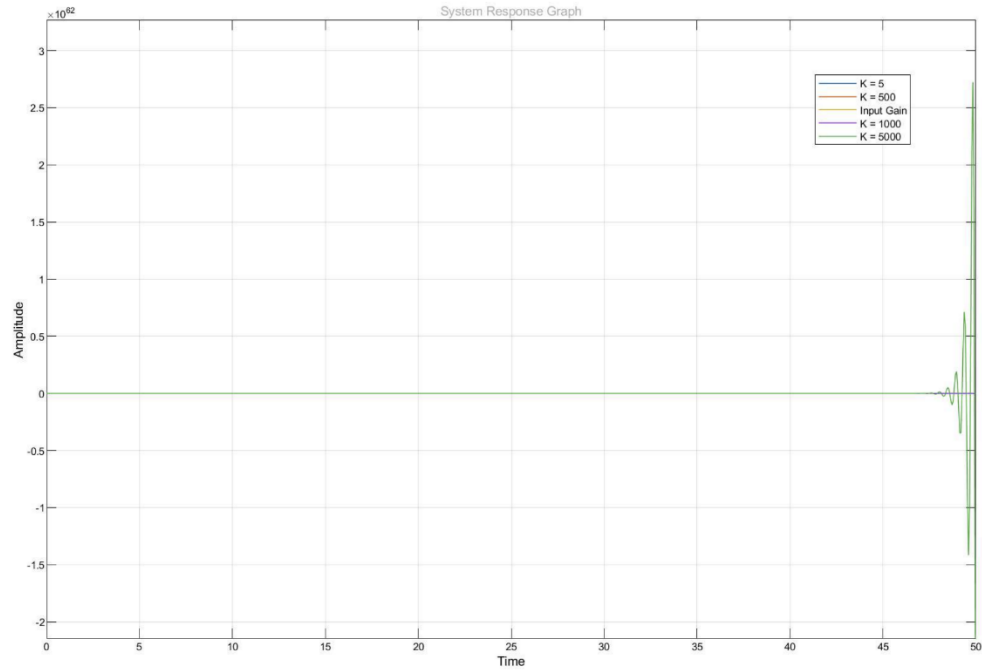

Figure 21 - A graph of the error signal of the system for an input of 5 for (8)
3. Regarding Question (8): In a similar manner, compare the graphs with your theoretical pre-lab calculations for the system in (8) (Figures 21–23). Large disparities could be caused by modelling assumptions that weren't taken into consideration in the pre-lab or by Simulink settings (such solver tolerances).